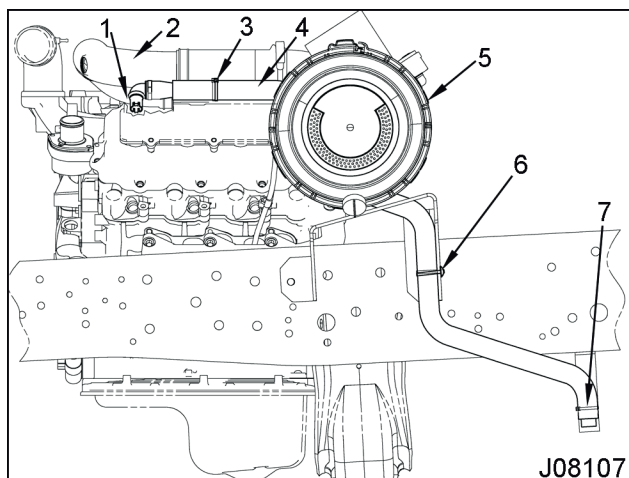

Figure 1 Crankcase Ventilation Hose Assembly
1. Remove the button head wire tie (Figure 1, Item 6) from behind the air cleaner bracket.
2. Remove the standard wire ties from the ladder clip (Figure 1, Item 3) on the valve cover and the frame rail (Figure 1, Item 7).
5. Remove the Mass Air Flow (MAF) sensor clamp from the air inlet duct assembly (Figure 1, Item 2). Disconnect boost control tubing. Remove and discard the air inlet duct assembly.